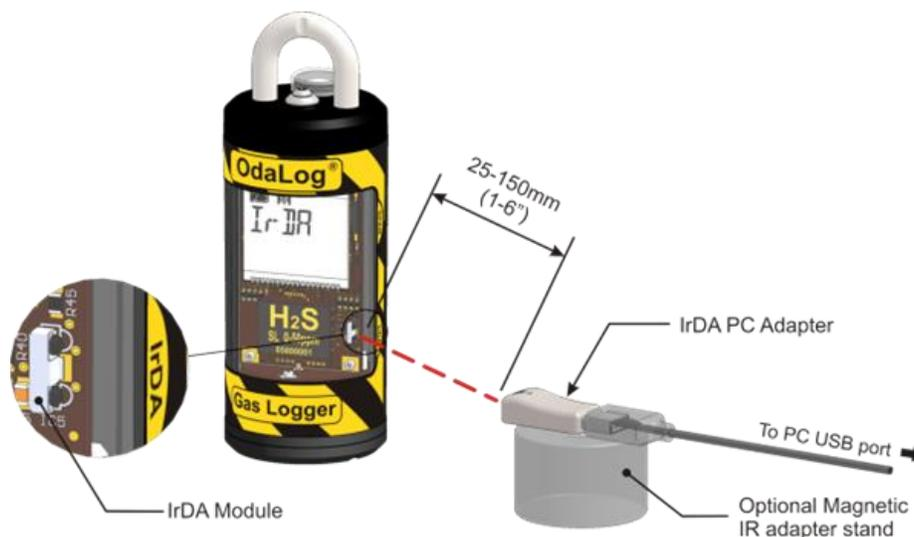

Figure 9: Setup of IrDA Communication
- ⊙ Position the OdaLog® correctly with respect to the Infrared Data Communication Link, as shown in Figure 9.
- ⦿ Position the IrDA device between 25-150mm (1-6") from the OdaLog® Instrument, ensuring line-of-sight between the IrDA device and the IrDA module on the OdaLog®, as shown in Figure 9.